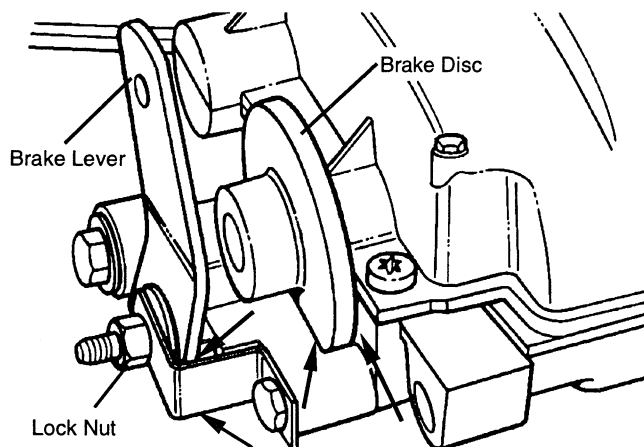

FIG. 37
- Check for brake disc contacting the case and/or brake lever contacting its mounting bracket, top or bottom. (See Fig. 37) If so, replace friction pucks and brake disc before making any adjustments.